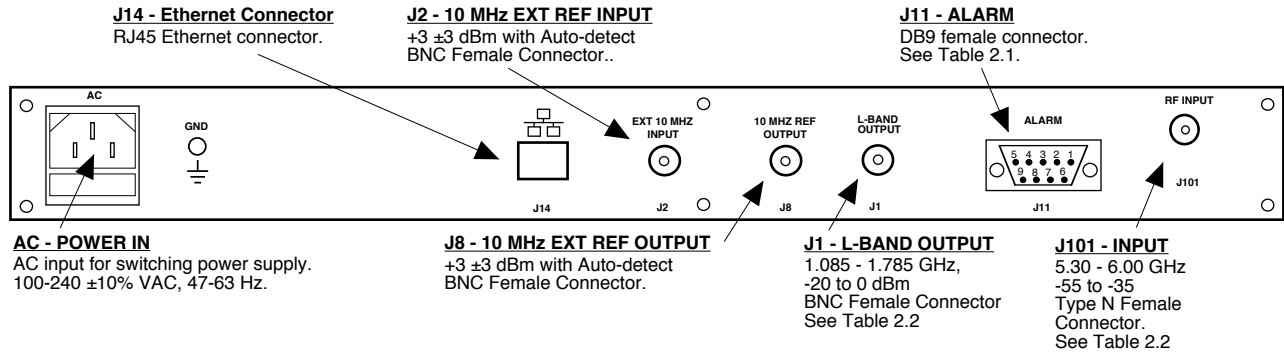

FIGURE 2.1 3116-5360# Rear Panel I/O's
Figure 2.1 shows the input and output connectors on the rear panel.
1. Connect a -55 dBm to -35 dBm signal to RF IN, J101 (Figure 2.1).